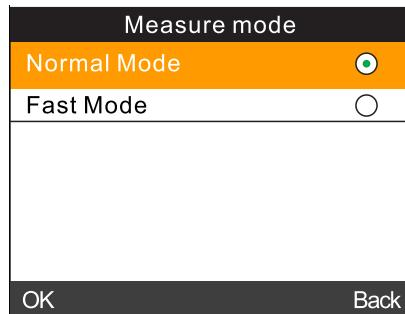

Figure 53 SCI/SCE Setting Interface
I) Measurement mode Select "Measurement Mode" in the "Function Settings" to enter the interface shown in Figure 53, where you can choose between normal mode or fast mode for measurement